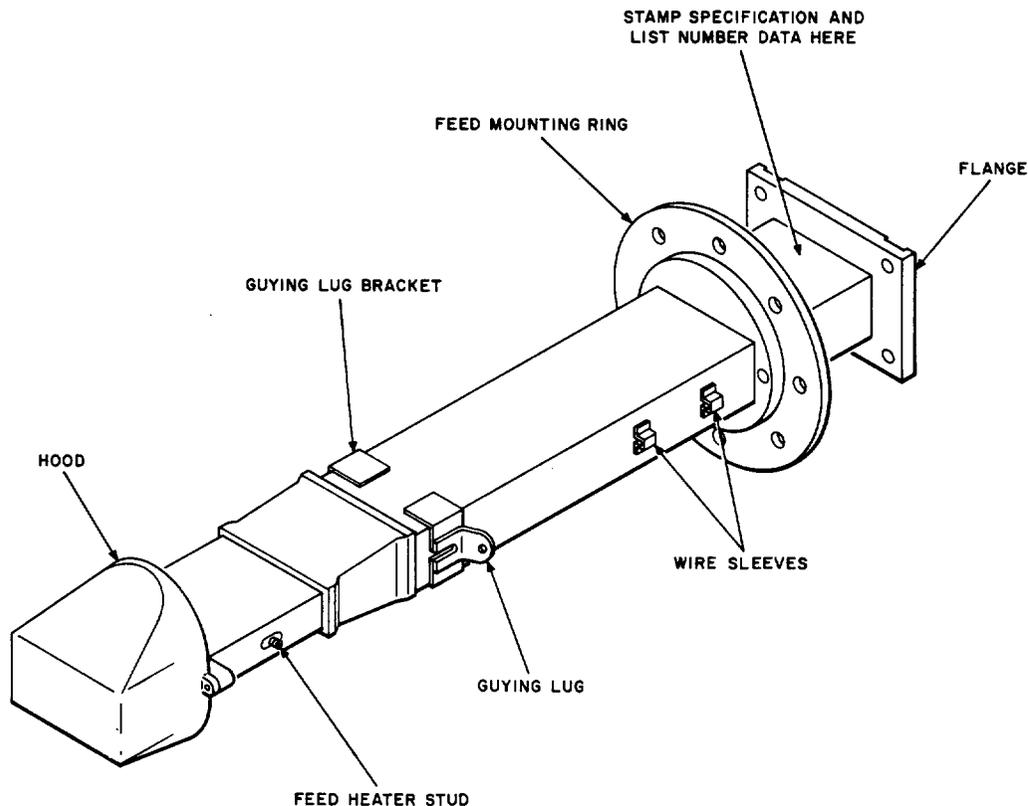
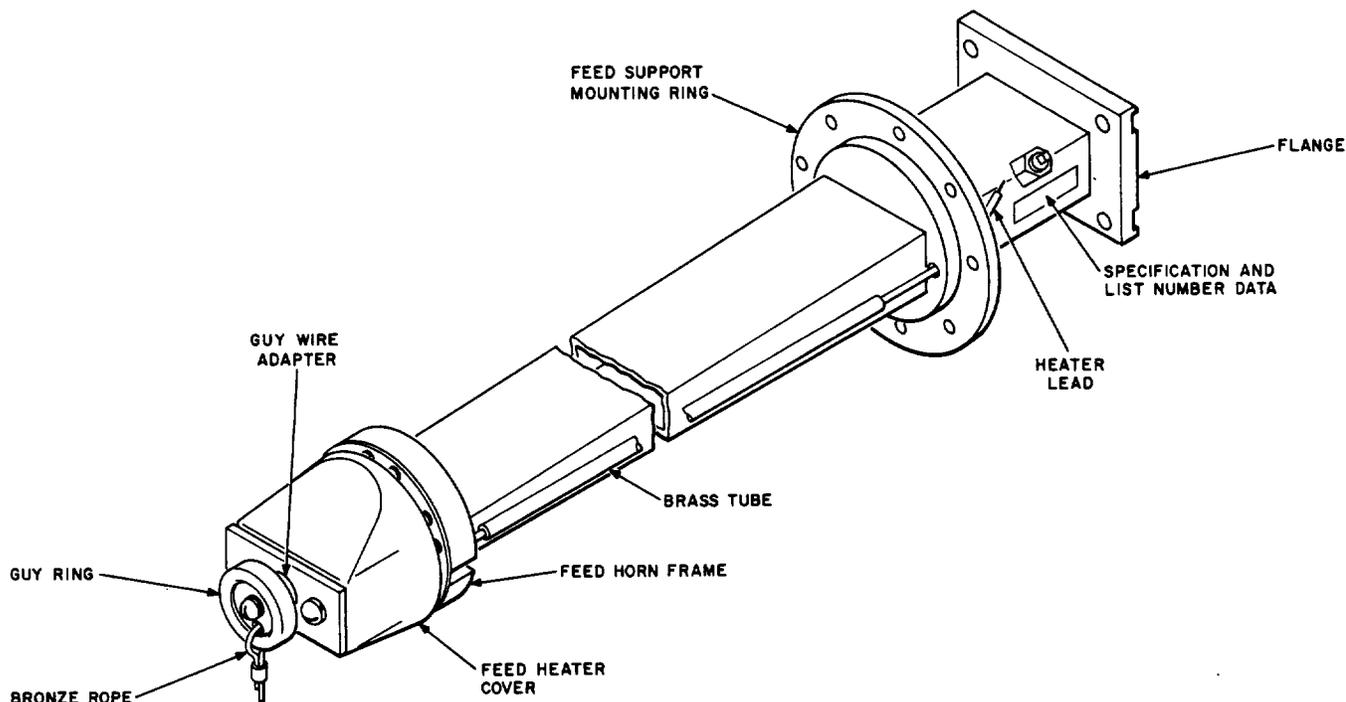
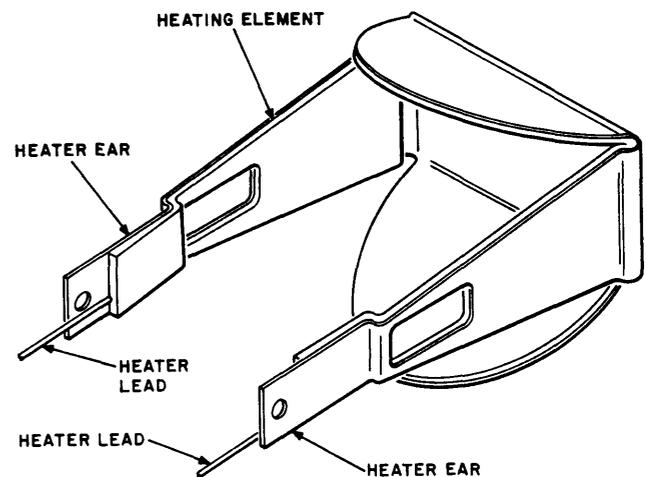
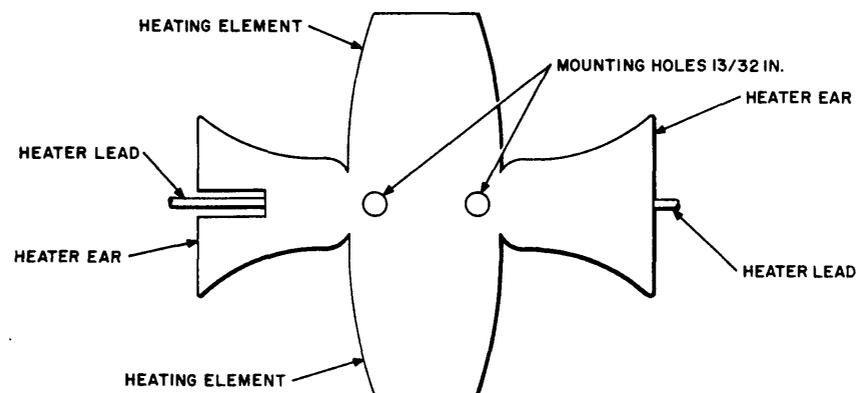

Fig. 6—Broadband Antenna Feed Assembly (Gabriel Electronics)
Fig. 7—Broadband Antenna Feed Assembly (Technical Appliance Corporation)
Fig. 11—Feed Heater Assembly (Gabriel Electronics)
Fig. 12—Feed Heater Element (Technical Appliance Corporation)
4.04 The feed assemblies are supplied by more than one manufacturer and there are minor differences in appearance. A Gabriel Electronics feed is shown in Fig. 6 and a Technical Appliance Corporation feed is shown in Fig. 7. The feeds are mechanically and electrically interchangeable with the following exceptions: The guy assemblies and feed heaters from one manufacturer cannot be used with another manufacturer's feed assemblies.
4.10 The feed assembly may be supplied by Gabriel Electronics or Technical Appliance Corporation (TACO). The guying assemblies used on the two feed assemblies, while similar in appearance, are different in length. The guy assembly attaches to the end of the Taco feed and approximately to the center of the Gabriel feed as shown in Fig. 6 and 7.
- (b) Pull the end of the loop in the tiller rope from the clamp and pass it through the guying lug on the antenna feed (Fig. 6).
4.15 The feed heater associated with the Gabriel feed (Fig. 11) is different from that associated with the Taco feed (Fig. 12). To install the heater on the Gabriel feed, proceed as follows:
- (b) Thread the wires through the slots on the guying lug brackets until the heater is positioned over the hood on the antenna feed (see Fig. 6). Engage the mounting holes in the heater ears with the threaded studs on the feed.
(b) Thread the heater wires through the feed horn frame (Fig. 7) and down through the brass tubing on the side of the feed. Continue feeding the wires through until the heater element (Fig. 12) is seated on top of the feed horn.